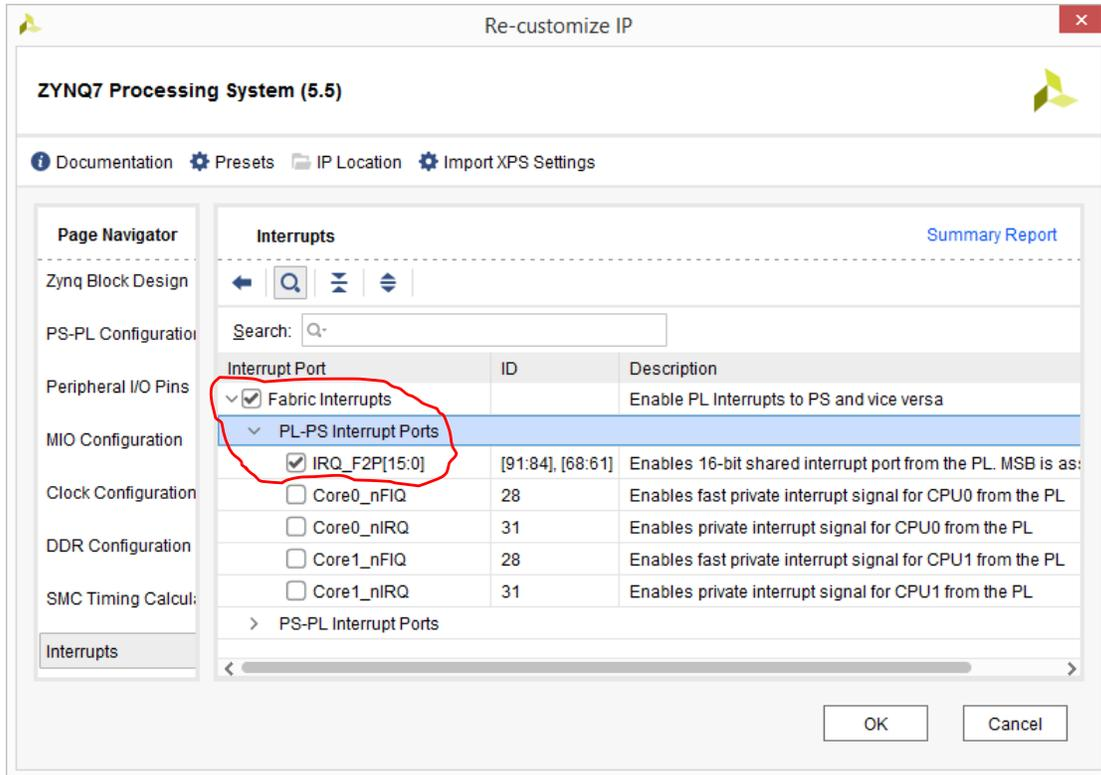

Figure 2. PS Customization. 16 PL Interrupt signals enabled
- ✓ Go to PS → Interrupts. Check Fabric interrupts. Expand PL-PS Interrupt Ports. Then, check `IRQ_F2P[15..0]` (see Figure 2). This enables the 16 PL interrupts.